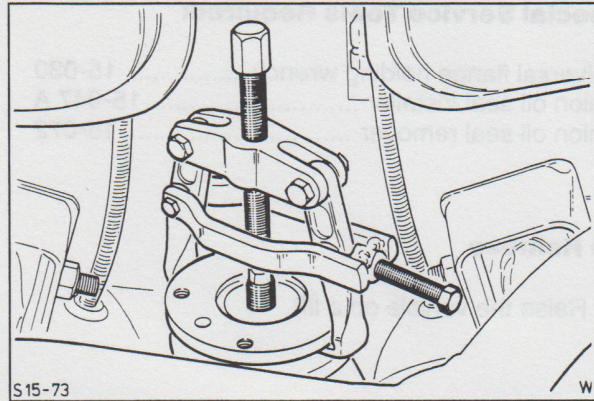

Fig. 74. Remove drive flange.
5. Pull the drive flange off the drive pinion using a standard puller, Fig. 74.